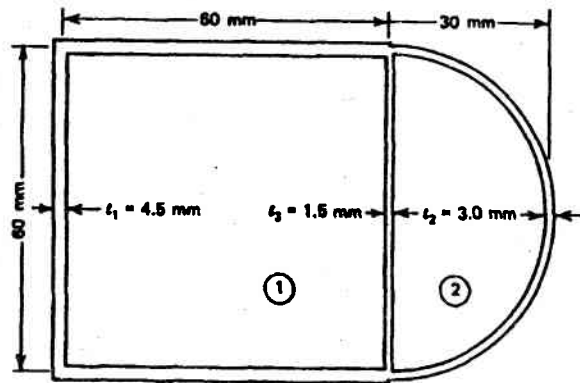

Figure 3
14. (a) A hollow thin-wall torsion member has two compartments with cross-sectional dimensions as indicated in Figure 3. The material is an aluminum alloy for which  $G = 26.0 \text{ GPa}$ . Determine the torque and unit angle of twist if the maximum shear stress, at locations away from stress concentrations, is  $40.0 \text{ MPa}$ .